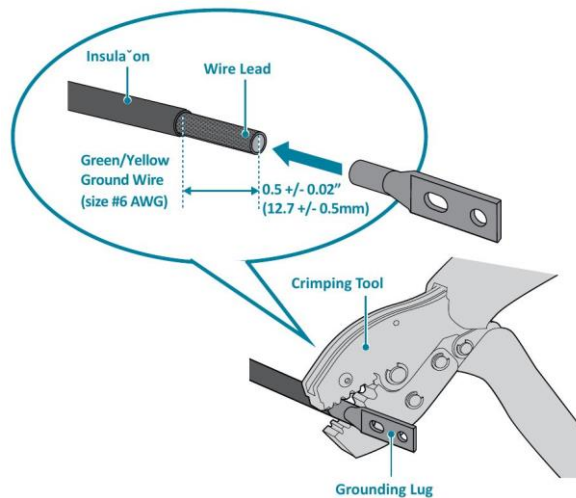

Figure 18
6. Using 2 M4 screws and 4 washers (provided with the package contents), firmly lock the grounding lug to either of the designated grounding locations on the router. Figure 18 need to use grounding lug adapter bracket and 2 M4 black screws.